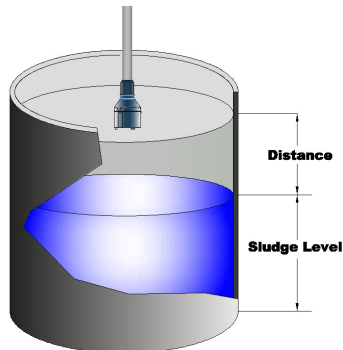

Fig.32 Sludge Level & Distance
| ② Sludge Level | see Fig. 32 |
| ③ Sludge Distance | see Fig. 32 |